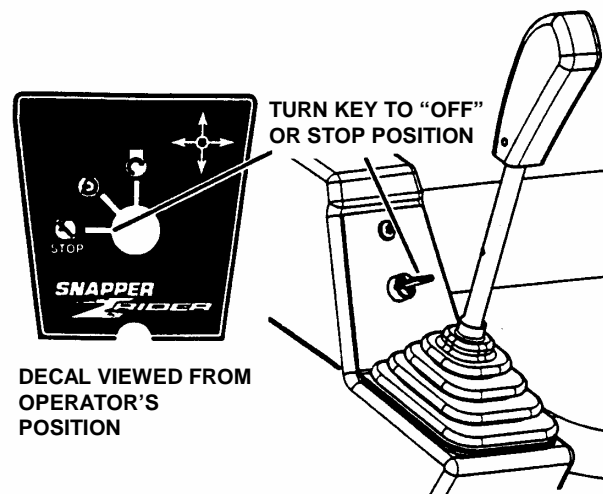

FIGURE 2.8
1. Stop engine by turning key to the "OFF" position. See Figure 2.8.
1. Stop motion of riding mower by moving joystick to neutral (N) position. Refer to Figure 2.8.